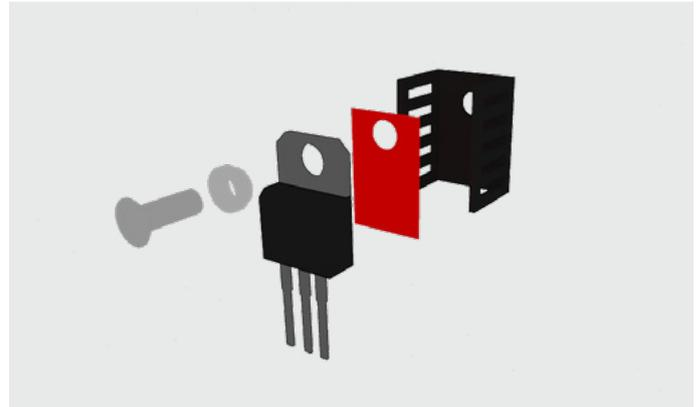

Fig. 2: Transistor mounted on a heat sink with an Insulator pad
The WE-TINS is designed for applications where electrical insulation between component and cooling assembly is needed as well as the conduction of heat energy. The most common use of this product is in combination with the Transistor Outline (TO) package family and heat sink assemblies (**Figure 2**).